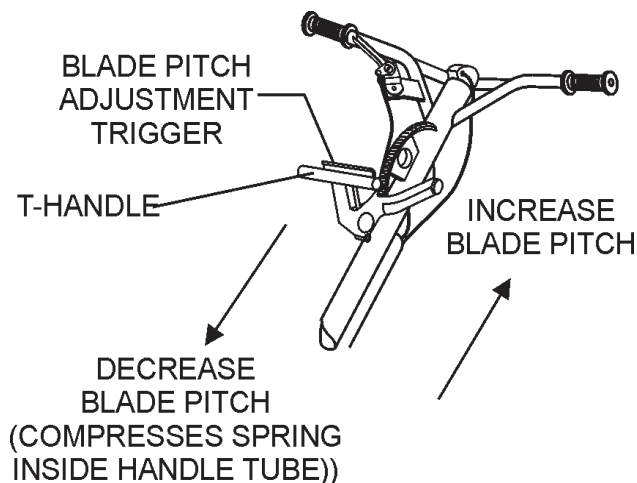

Figure 6. Blade Pitch T-Handle
1. Grasp the Quick Pitch™ **T-handle** from the operator's position and squeeze the blade pitch adjustment trigger. Move the **T-handle** towards the engine as far as possible (Figure 6). This will compress the spring inside the handle tube. Allowing maximum exposure of the pitch cable.